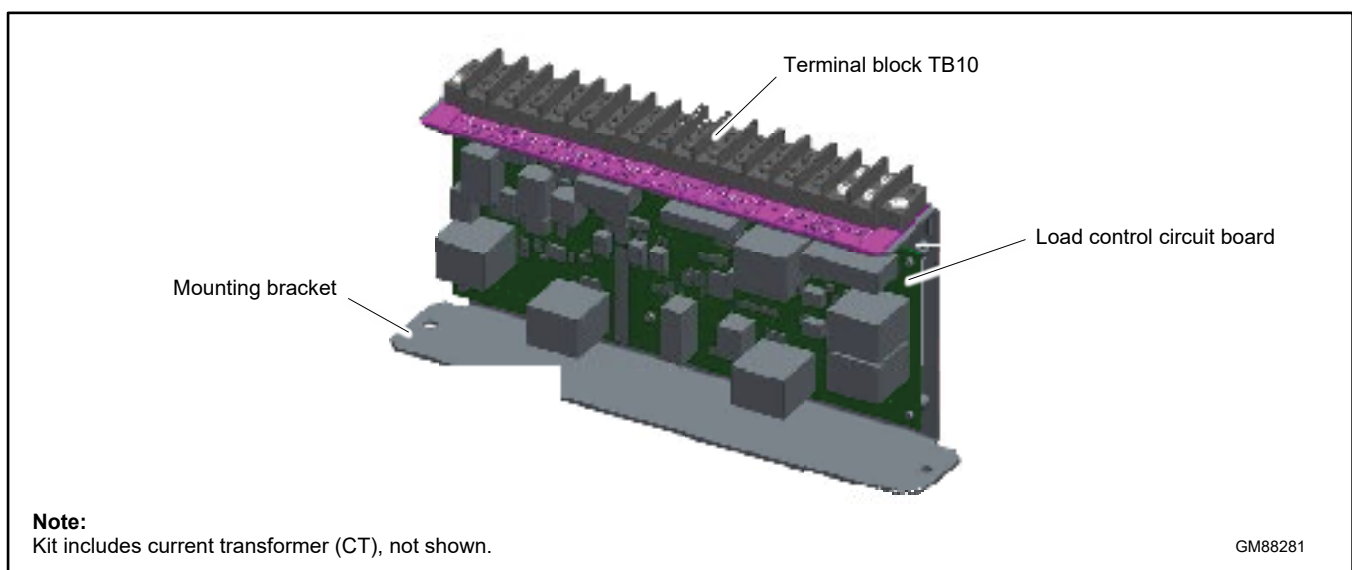

Figure 45 Load Shed Assembly GM88281-1 (mounts inside the transfer switch enclosure)
1. The optional Load Shed Kit mounts inside a Model RDT or RXT transfer switch. Figure 45 shows the load shed assembly.